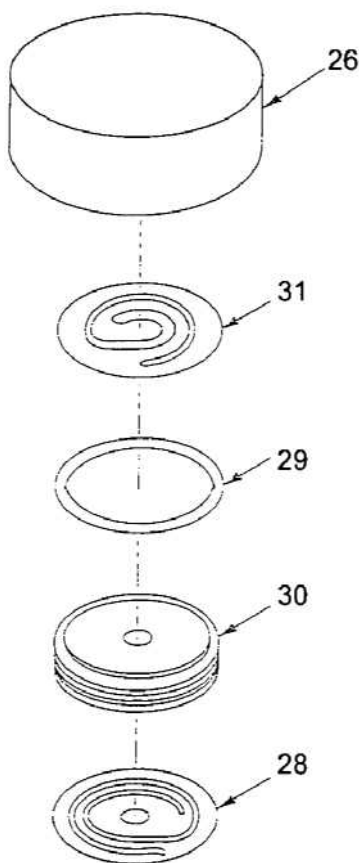

Figure 2. 1st Stage Valve Assembly.
- d. Remove the suction reed valve (28) and inspect it. Refer to Figure 2.
Legend For Figure 2
- e. Remove the valve seat (30). Remove the discharge reed valve (31). Discard pitted, cracked or broken valves. A scratched or pitted valve seat (30) may need to be lapped. Discard the O-ring (29). Refer to Figure 2.
lapped or replaced, reassemble in reverse order of disassembly. Refer to Figure 2.
- b. Install the discharge reed valve (31) and new O-ring (29) in the head (26). A light coating of oxygen compatible grease (PCI P/N 582380-001, see WP 003 00, Table 2) should be used on the O-ring. Refer to Figure 2.
- c. Install the valve seat (30). Push down to engage the O-ring (29) properly. Refer to Figure 2.
- d. Put the suction reed valve (28) on the valve seat (30).
The valve disassembly, inspection and repair instructions here cover all the compressor valve assemblies. Figures 2 and 3 should be used as guides for assembly.